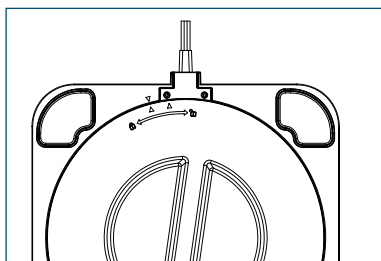

fig. 1
1) Hold the knob cover from the bottom of the product, rotate clockwise in the direction(as shown below), open the bottom cover, remove the filter, and remove the plastic bag of the filter. (figure 1)